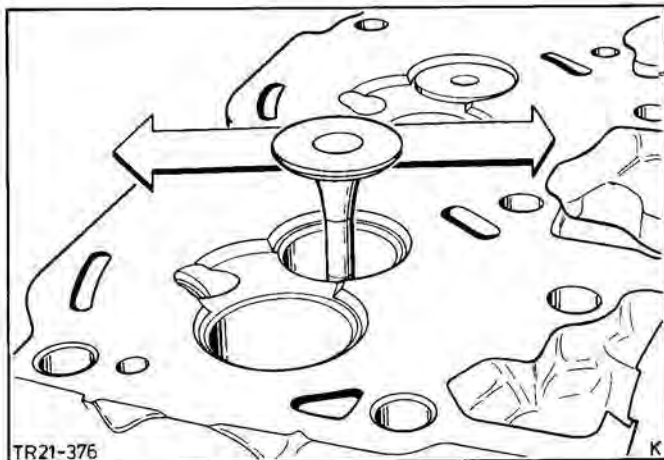

Fig.97. Check clearance in valve guide by pressing sideways.
1. Place valve in valve guide and check clearance by pressing sideways, Fig.97.